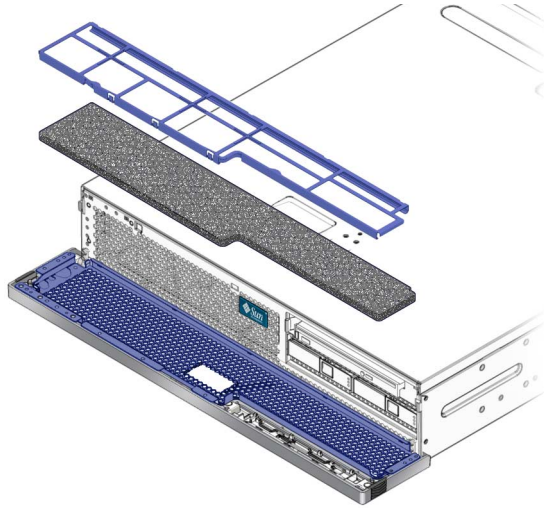

FIGURE 1-2 Installing the Air Filter in the Bezel
4. Snap the new air filter into place in the bezel (FIGURE 1-2).